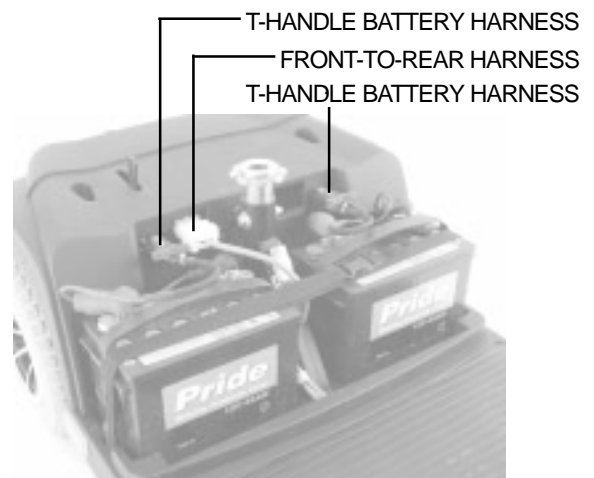

Figure 15. Harness Connections
6. Unplug both T-handle battery harnesses. See figure 15.
7. Unplug the front-to-rear harness. See figure 15.